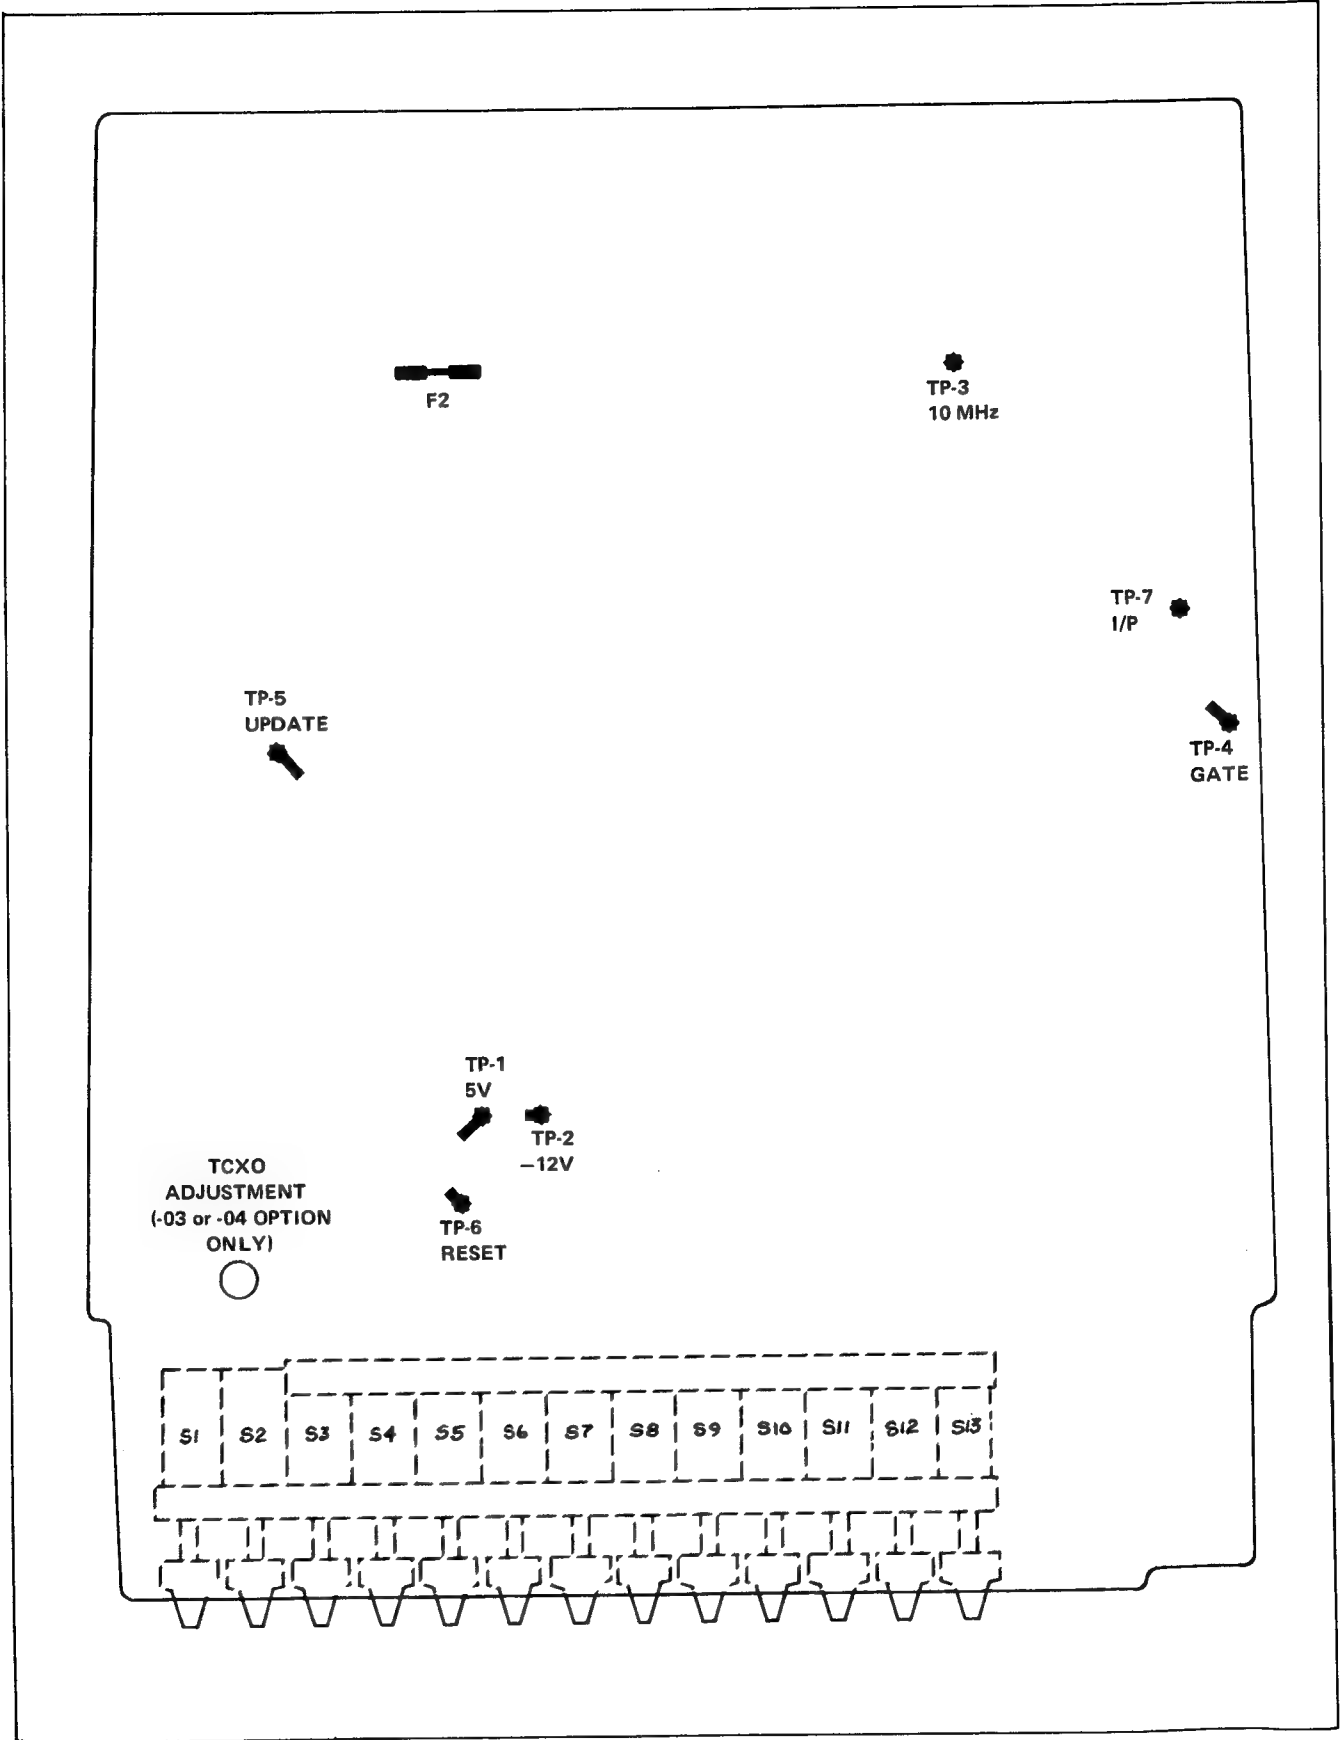

Figure 4-2. Main PCB (BOTTOM VIEW)
5. Using a nonconductive screwdriver adjust the TCXO through the main PCB (see Figure 4-2) to obtain a reading of overflow 000.0000 Hz ± 3 digits for the -03 and -04 Options.
Test points are clearly marked on the bottom of the main PCB with a number and a star, see Figure 4-2.